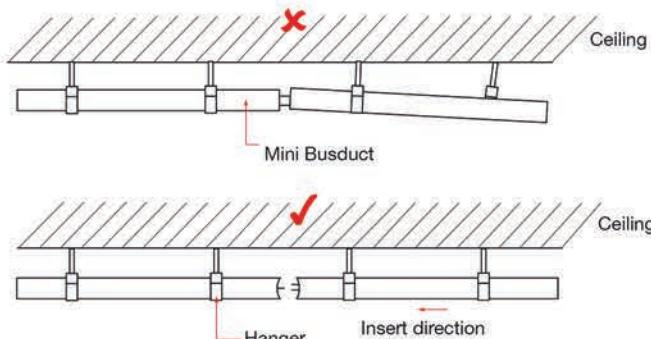

Fig.1
- When joining the Mini Busduct, fix one Mini Busduct with hangers in advance, then hang another Mini Busduct with hangers. Keep Mini Busduct horizontal, set the Mini Busduct centre line and level together, fit at 180° angle until the ducts touch together. Then tighten the bus bars. Fig. 1.